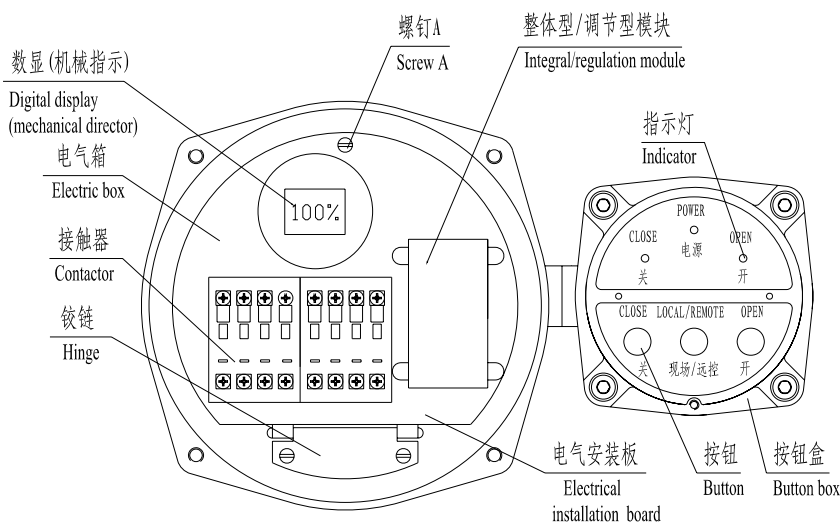

图 2 Figure 2
4.2 整体型是在常规普通型电动执行机构的基础上派生而成，其电气控制部分结构见图 2。
The integral electric actuator is derived from the common type. Refer to Figure 2 for its electric control.